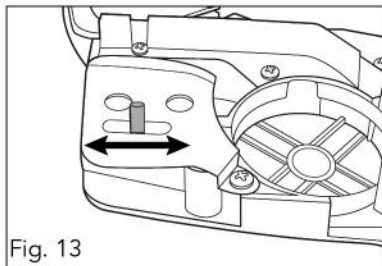

Fig. 13
9. The chain tensioning pin can be adjusted by turning the chain tension screw (13), with the multi-tool (25). When the screw is turned ANTI CLOCKWISE, the pin moves towards the rear of the chainsaw. When the screw is turned CLOCKWISE, the pin moves towards the front of the chainsaw. (fig. 13).